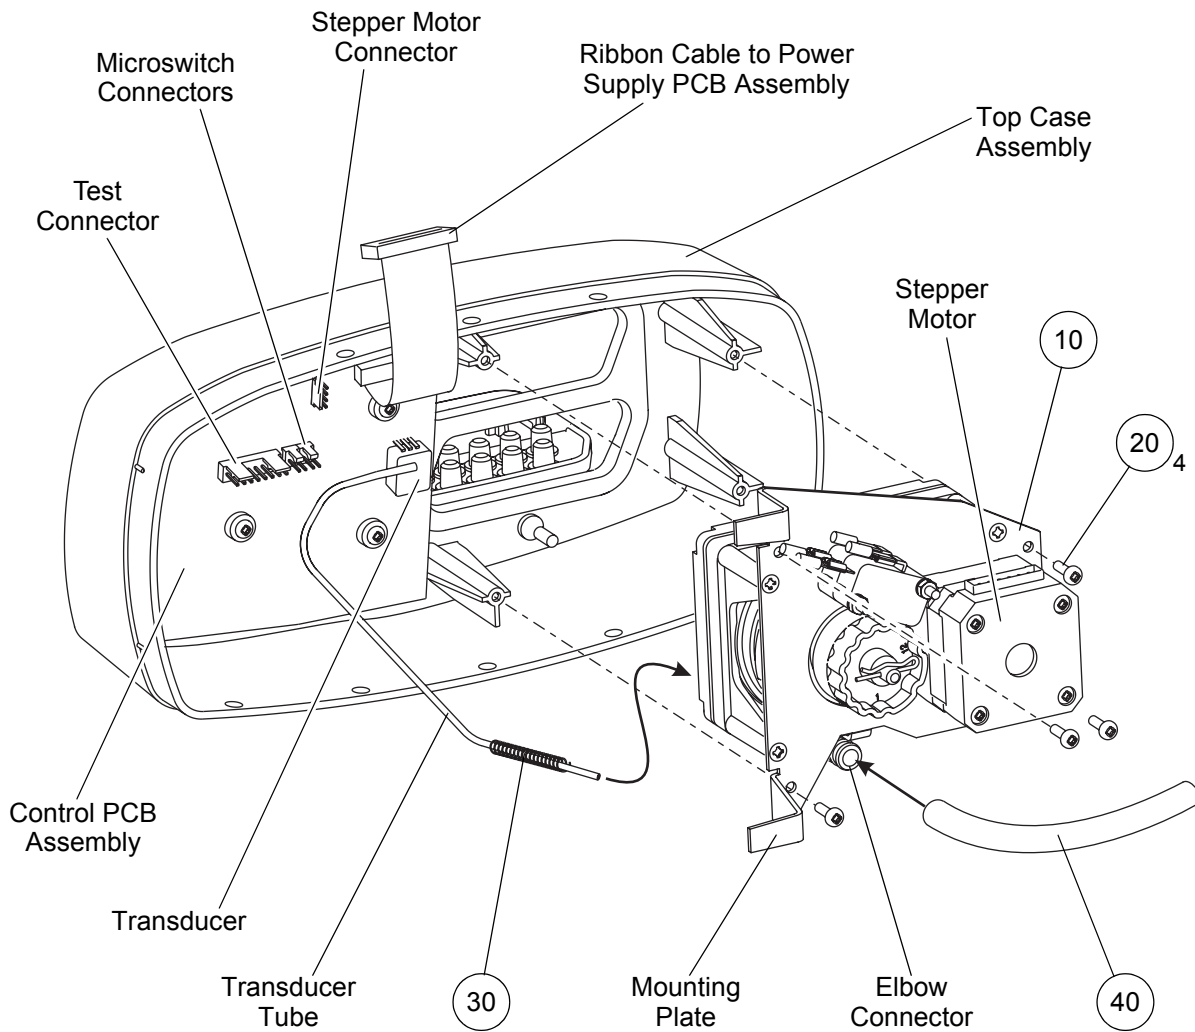

Figure 21 - Replacing the 12-Chamber Pressure Module Assembly
- 13.2 On the top case assembly, disconnect the following connectors from the control PCB assembly (refer to Figure 21):
- 13.4 Remove the four pozi screws (Fig 21, Item 20) which secure the pressure module assembly (Fig 21, Item 10) to the top case assembly.
- 13.6.1 Slide the anti-kink tubing spring (Fig 21, Item 30) away from the pressure module assembly.
- 13.6.4 If necessary, pull the large diameter tube (Fig 21, Item 40) off the elbow connector on the side of the pressure module assembly.
- 14.2 Make sure that the large diameter tube (Fig 21, Item 40) is pushed fully onto the elbow connector on the side of the pressure module assembly (Fig 21, Item 10).
- 14.4 Slide the anti-kink tubing spring (Fig 21, Item 30) over the transducer tube and elbow connector.
- 14.6 Install the four pozi screws (Fig 21, Item 20) to secure the pressure module assembly to the top case assembly.
- 14.7 Push the transducer tube onto the top outlet of the transducer on the control PCB assembly (refer to Figure 21).
- 14.8 Connect the following connectors onto the control PCB assembly (refer to Figure 21):